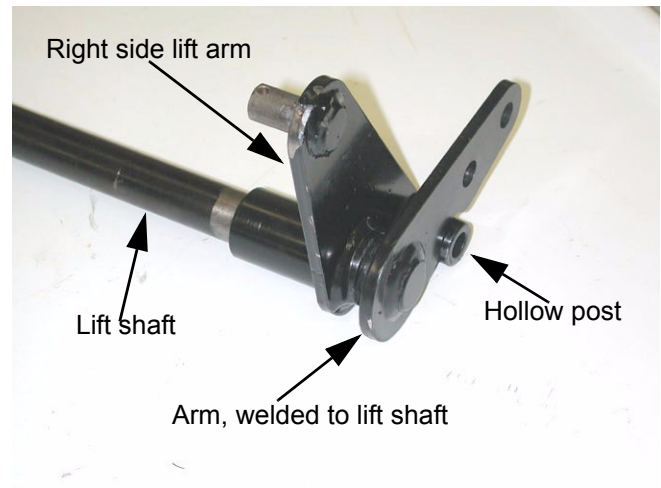

Figure 2.2
- 2.2. Slip the right side lift arm (from the kit) onto the lift shaft so that the hollow post rests in the notch on the arm that is welded to the lift shaft. See Figure 2.2.